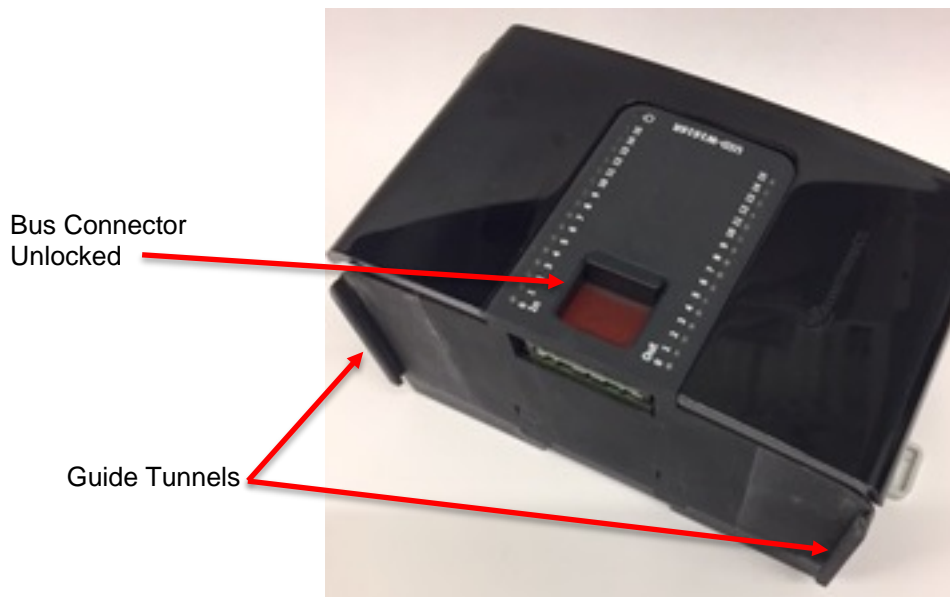

Figure 16. Guide Tunnels
3. Use the upper and lower guide-tunnels (tongue and groove) to slide the I/O module into place as shown in Figure 16.